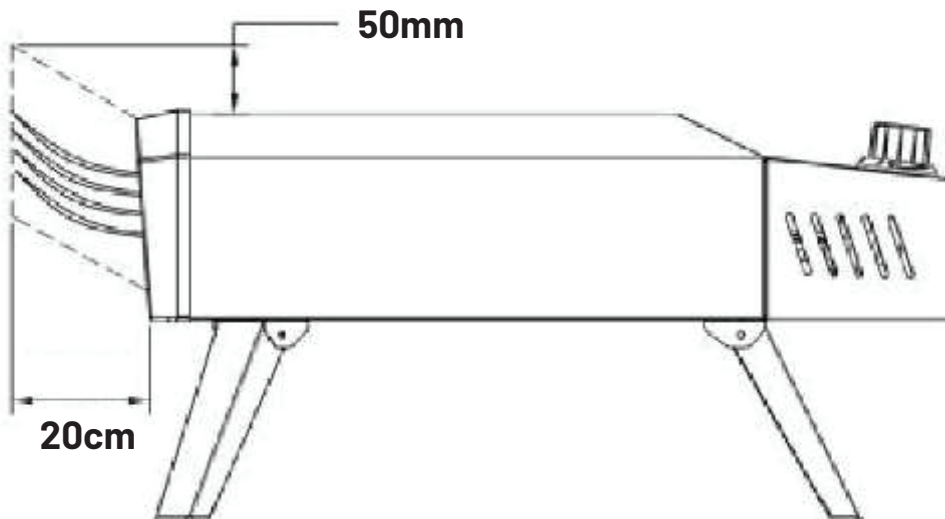

Figure 12
- 2.** To avoid injury or burns during operation, ensure you stay at least 120cm away from the front of the oven (Figure 12).